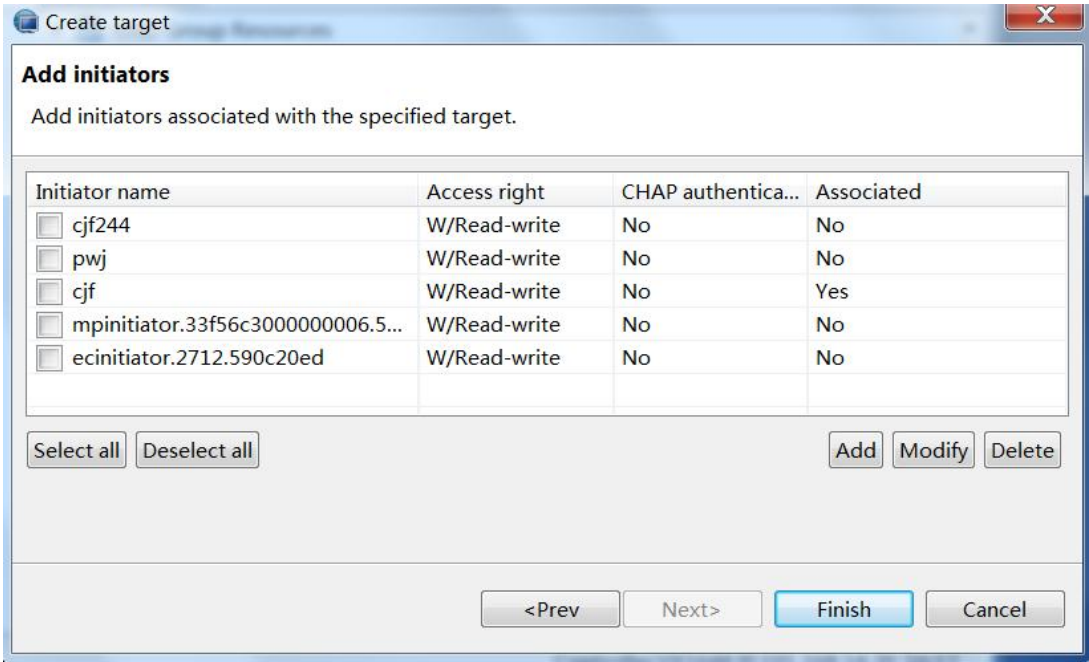

Figure 13-6 Setting an initiator
- (3) Click the [**Next**] button after configuration, and on the popup dialogue box, add or modify the initiator for the target, as shown in Figure 13-6: